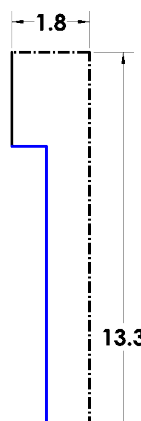

Fig. 3
Step 2. Sketch the **three lines**, **Fig. 3**.
Step 3. Click **Smart Dimension** (S) on the Sketch toolbar.